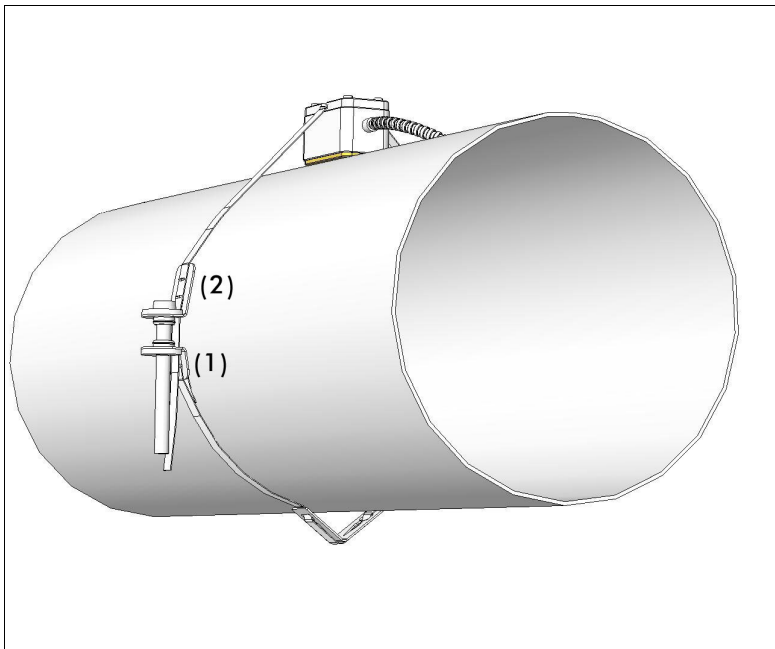

Fig. 7.7: Transducer and KATRONIC clasp on the pipe
- Place the clasp on the side of the pipe just in front of you. Lay the tension strap around the pipe and place the transducer on the pipe (Fig. 7.7). The spring (3) should lay on the pipe at some distance of the clasp.
- Holding the clasp and the transducer with one hand, thread the tension strap through part (2) and (1) of the clasp. Pull the strap firmly and engage the tension strap in the inner hooks of the clasp. When mounting the transducers on pipes with large diameters, it might be necessary to use tongs to tense the strap.